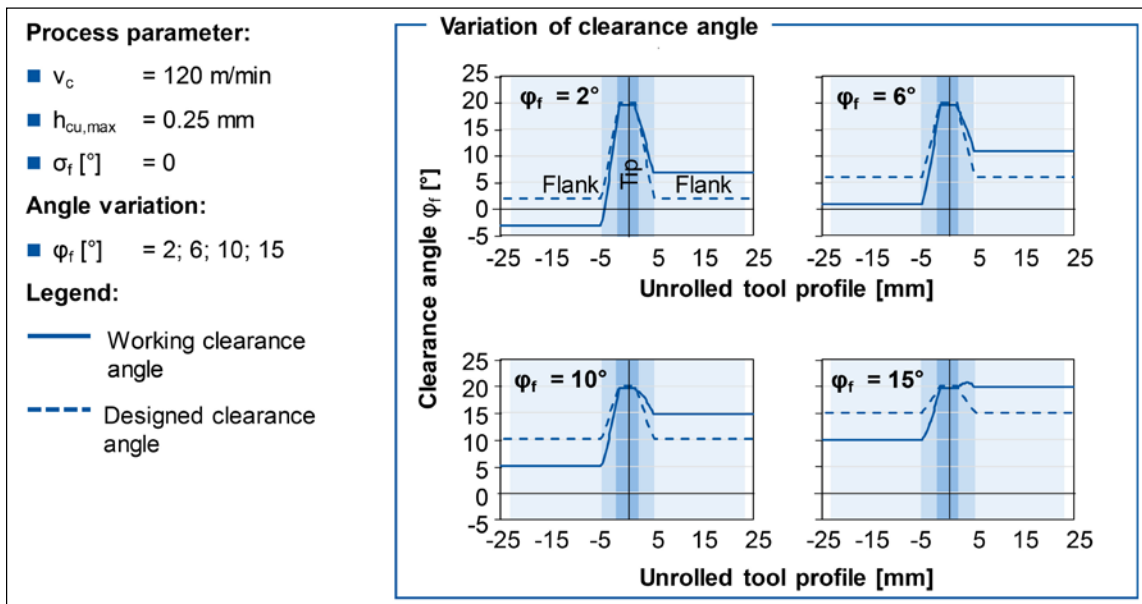

Figure 14 Calculated working clearance angle.
**Analysis of the working clearance angles.** According to the experimental plan presented, the clearance angle is varied between the values  $\varphi_j=2^\circ, 6^\circ, 10^\circ$  and  $15^\circ$ . The designed clearance angle and the maximum working clearance angle calculated by the simulation are shown (Fig. 14). The clearance angle calculated for each case is plotted over
the unrolled tool profile. The process parameters remain the same for all cases, such as a cutting velocity of  $v_c=120$  m/min, a maximum chip thickness of  $h_{cu,max}=0.25$  mm and designed tip rake angle of  $\sigma_a=0^\circ$ . In Figure 14 the designed clearance angle is represented by a dashed line while the working clearance angle is designated by a solid line. For the case with a designed clearance angle of  $\varphi_j=2^\circ$  the working clearance angle on the left flank reaches the value  $\varphi_{fv}=-3^\circ$ . In the tip area the curve for the working clearance angle reaches its maximum, which is identical to the designed clearance angle  $\varphi_j=\varphi_{fv}=20^\circ$ . In the right flank the working clearance angle is established